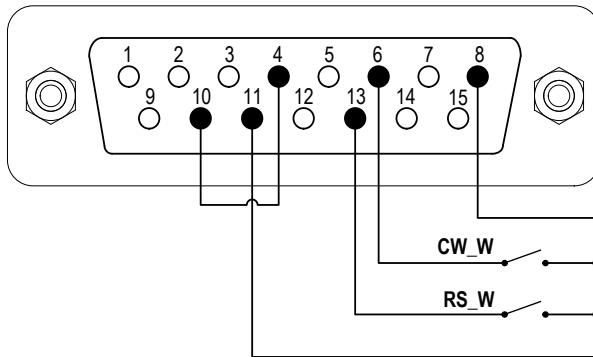
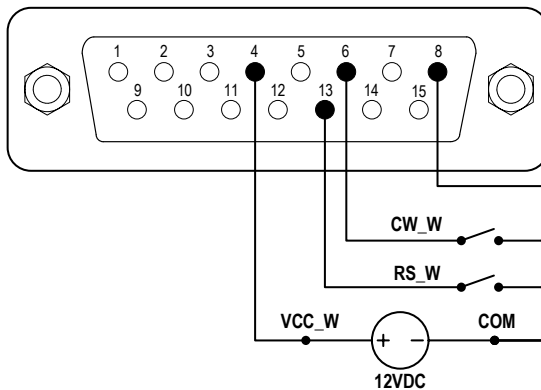

Figure 22. Logic Level 2 Control with Internal 12V Power Source
Figure 23. Logic Level 2 Control with External 12V Power Source
- 1) Switch the power off. Wire the DB15 connector as shown on Figure 22 or Figure 23, and connect it to the DB15 port on the rear of the pump.